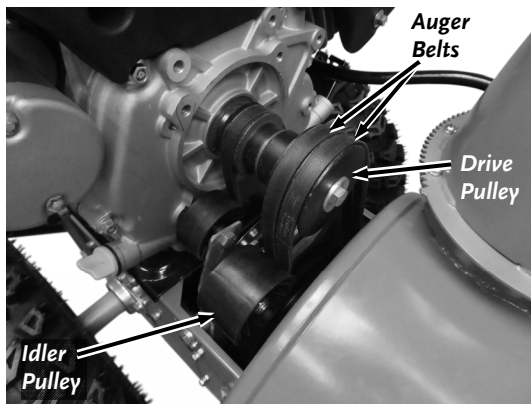

Figure 51
8. Roll the front Auger Belt off the front of the Engine Drive Pulley and the rear Auger Belt off the back of the Engine Drive Pulley (**Figure 51**).